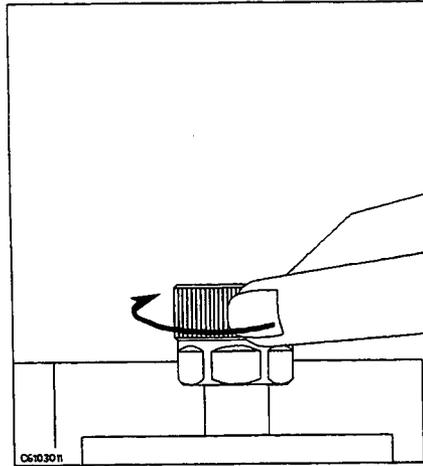

Figure 3-4.
3. Turn the APC-7[®] connector on the test head as shown in Figure 3-4.